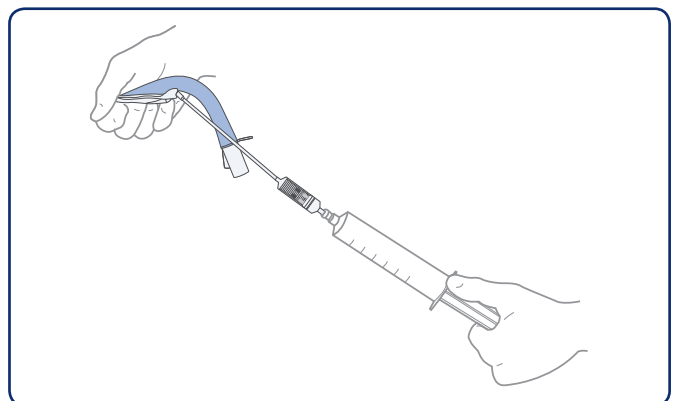

Figure 5: LMA Protector™ deflation
1. After firmly connecting a syringe of at least 50 ml to the inflation port, hold the device exactly as shown in Figure 5. Move the connected syringe away from the device until the inflation line is slightly stretched as shown. Compress the distal end of the device between the index finger and thumb while withdrawing air until a vacuum has been obtained.
2. While deflating, hold the device so that the distal end is curled slightly anteriorly as shown in Figure 5.